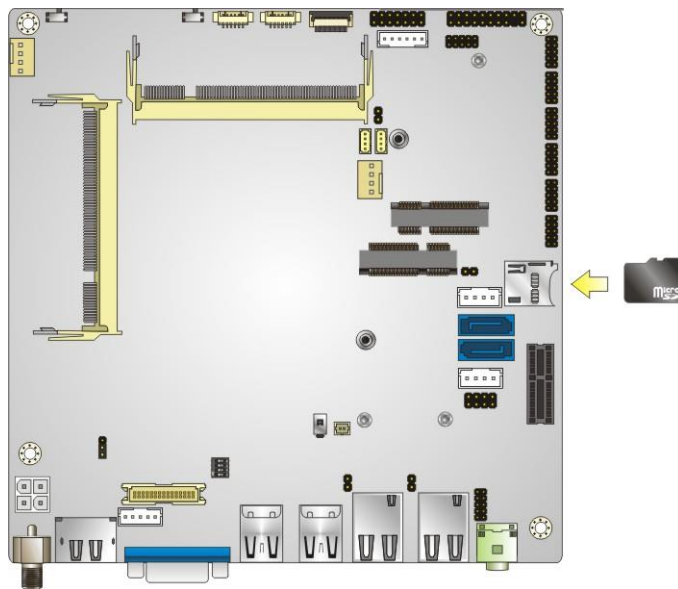

Figure 4-2: microSD Card Installation
Step 1: Locate the microSD slot. See Figure 4-2.
Step 3: Insert the microSD card. Push until the microSD card is firmly seated in the slot. See Figure 4-2.